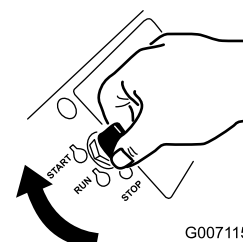

Figure 21
- Turn the ignition key to the Start position (Figure 21). When the engine starts, release the key.